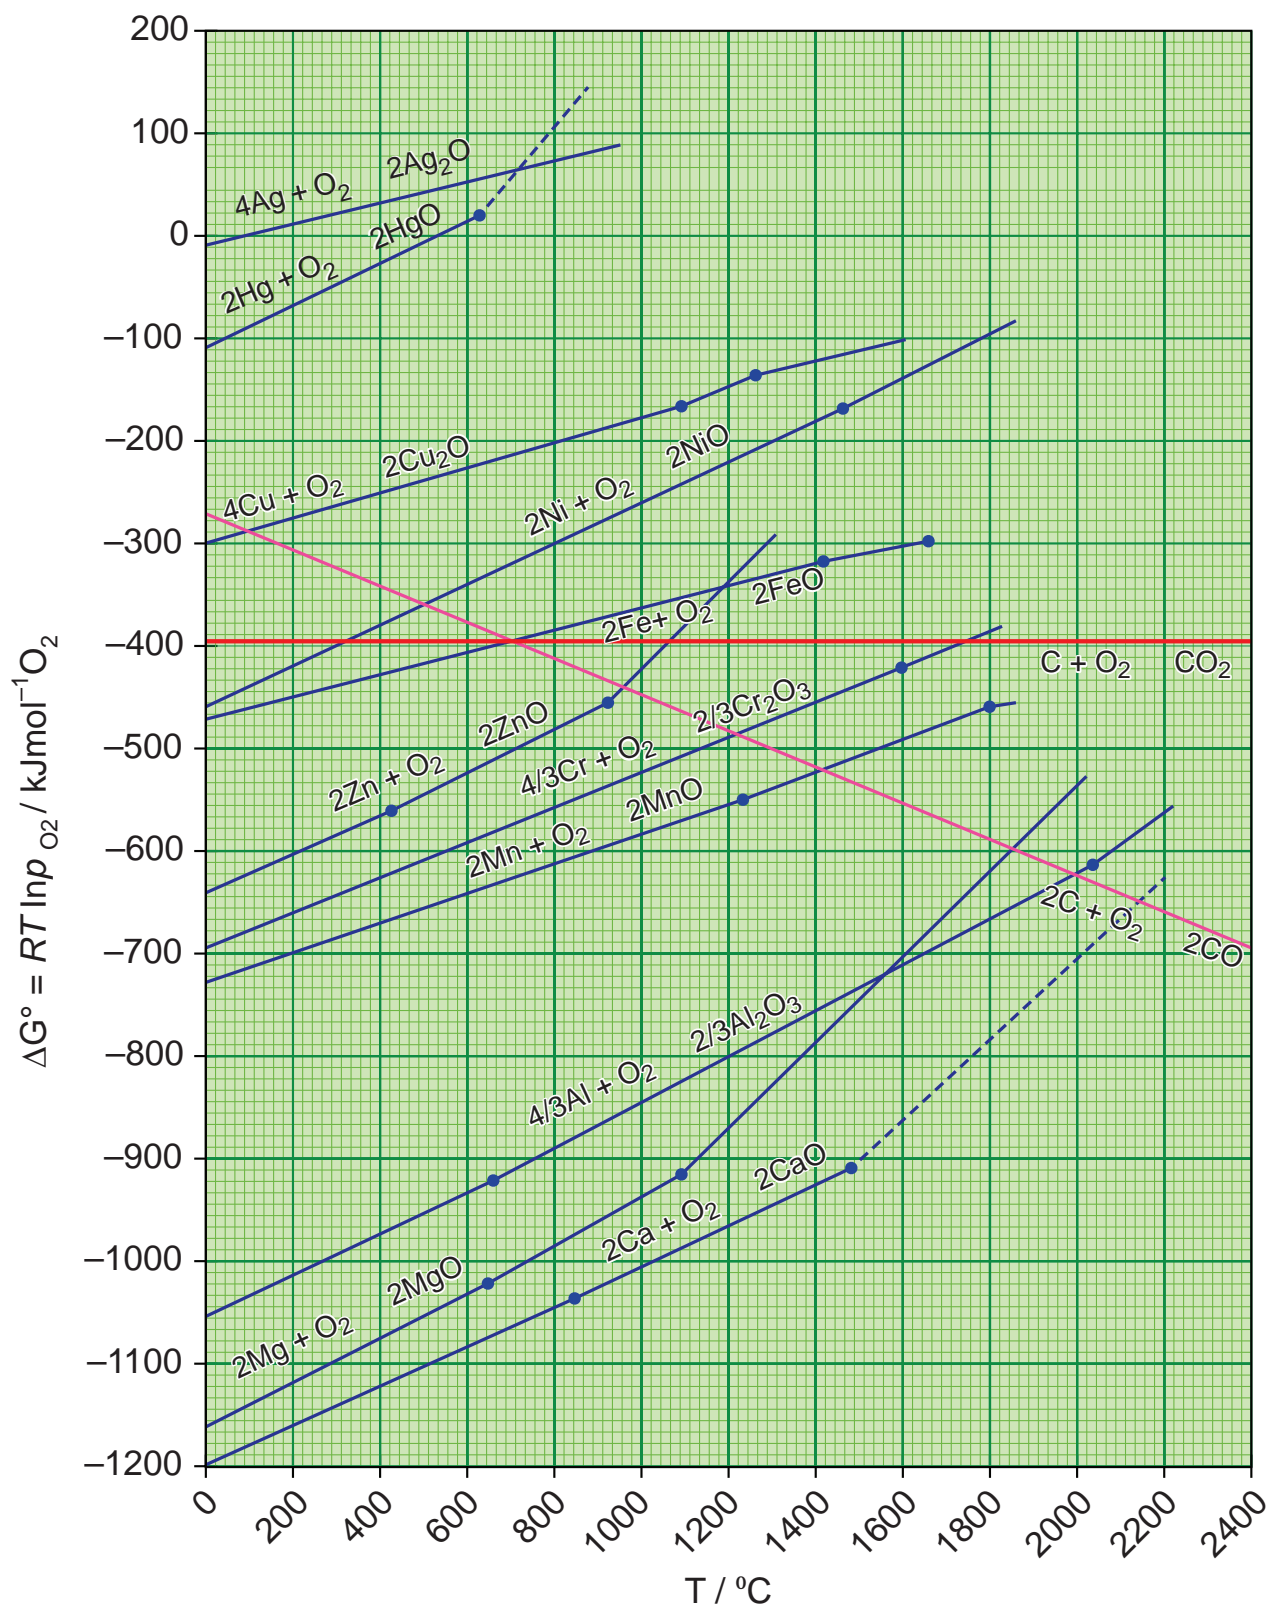

Figure 1.4 Ellingham diagram
3. Using Ellingham diagram (fig 1.4) indicate the lowest temperature at which ZnO can be reduced to Zinc metal by carbon. Write the overall reduction reaction at this temperature.